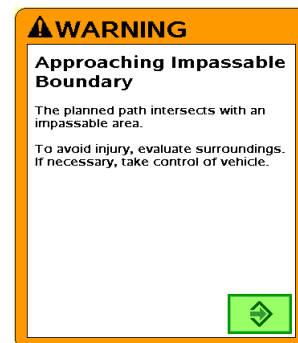

Figure 7
3) **Collision Detection warning appears at every turn** (figure 7)